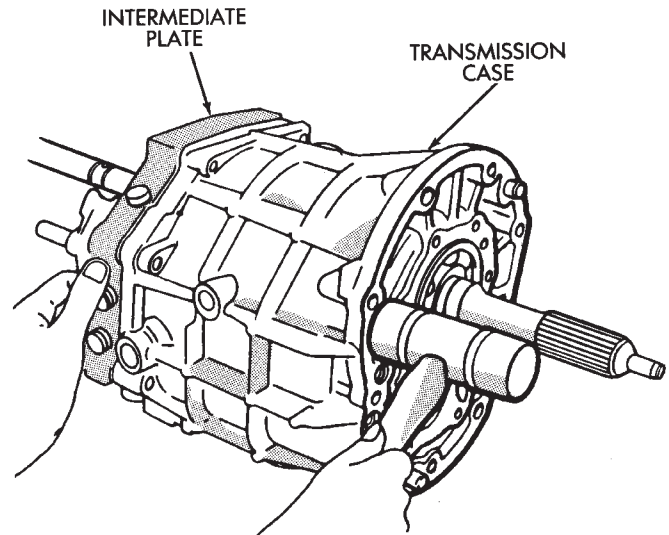

Fig. 85 Installing Transmission Case
(1) Remove intermediate plate from vise.
(2) Install new gaskets on intermediate plate.
(3) Install transmission case on intermediate plate (Fig. 85).